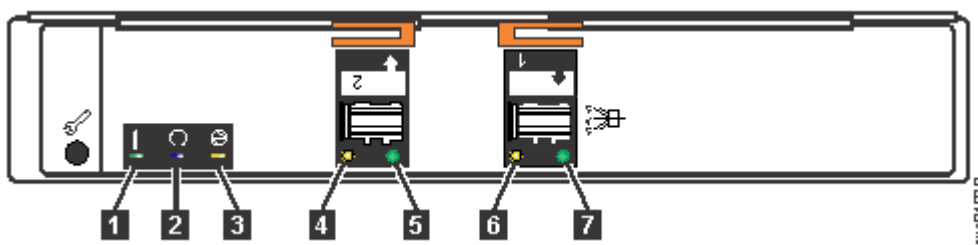

Figure 174. Expansion canister
An expansion canister provides SAS connectivity between the 5U expansion enclosure and control enclosure system. If either of the two expansion canisters has a failure, the other expansion canister assumes the full I/O load. Figure 174 on page 204 shows the features of an expansion enclosure.
3. Release the lower cable management arm to swing it out of the way, as described in Figure 174 on page 204.